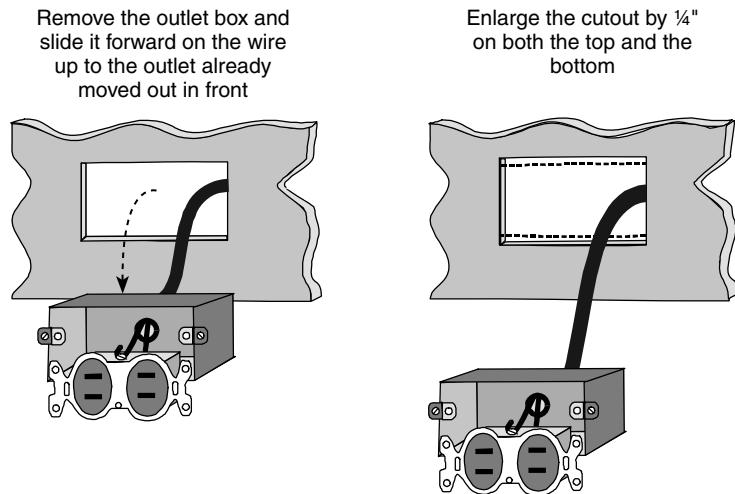

Figure 8-23
- Pull the outlet box out of the wall, hopefully several inches ... it depends on how much wire was initially installed; see Figure 8-23.